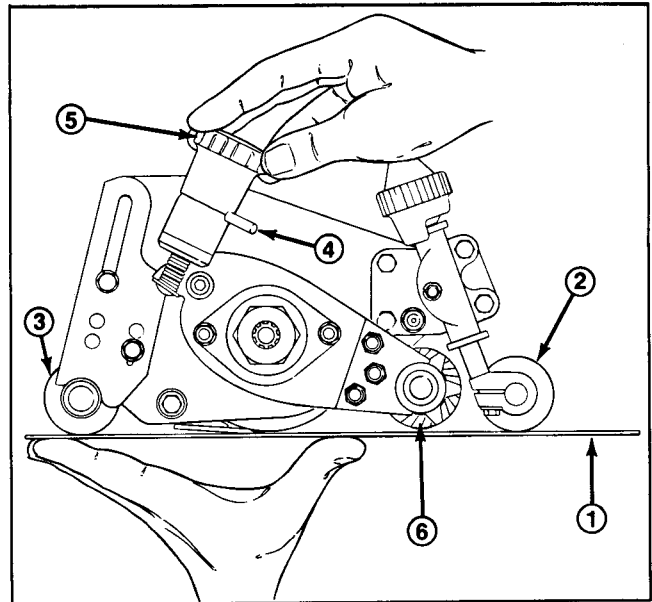

Figure 19
3. Hold a straight bar securely against the front and rear rollers on one side of the cutting unit (Fig. 19). While holding the bar in place, lift and turn the micro adjustment knob until the groomer blade just touches the bar (rotating the groomer reel by hand will assist in determining if blades are lightly touching the bar).